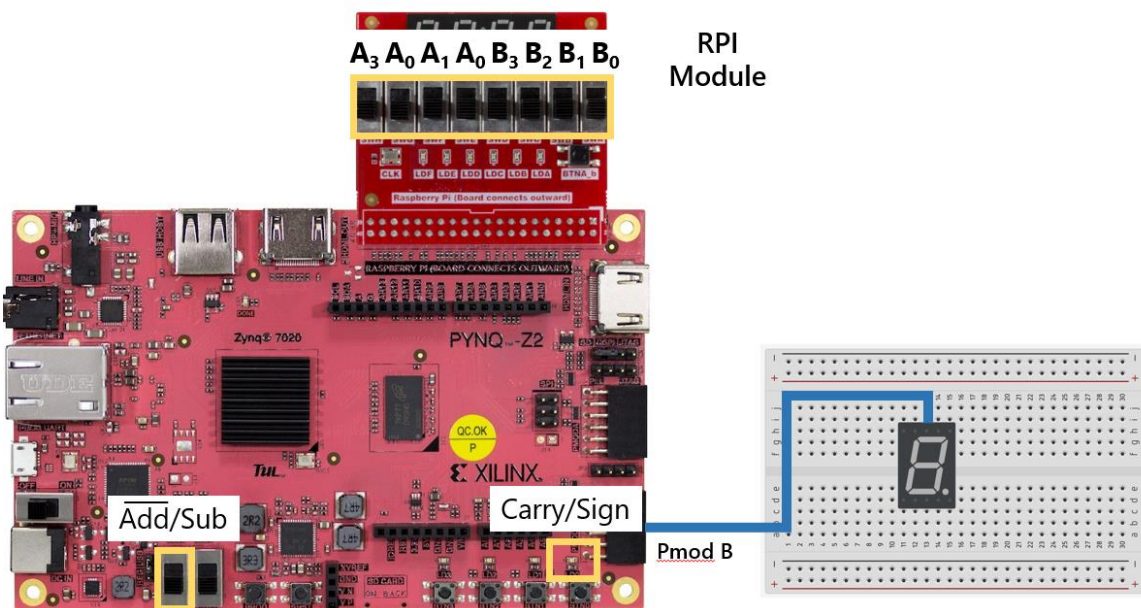

Figure 2 Circuit Schematic of the connections
Refer to Fig. 2 for the circuit of the design.
Step 1: Use the slide switches on the RPI module to provide the 4-bit inputs, A and B (as shown in Fig. 2). Use the slide switch (eg. SW1) on the PYNQ Z2 board to select the mode of operation (M) ($M = 1$ implies BCD subtraction, $M = 0$ implies BCD addition).